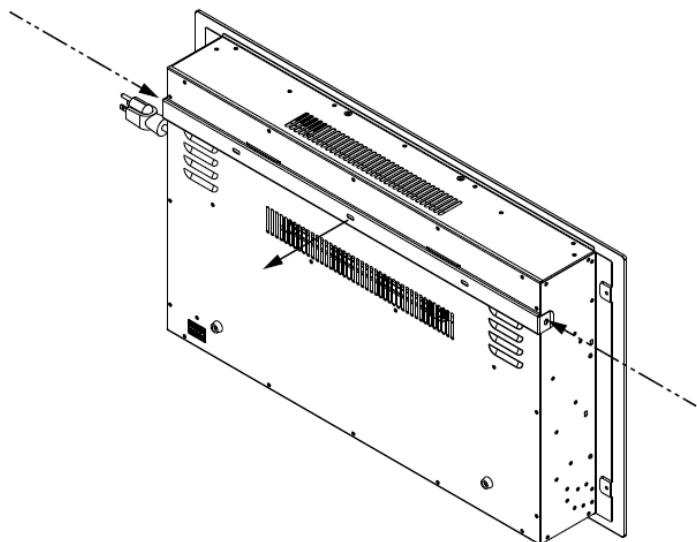
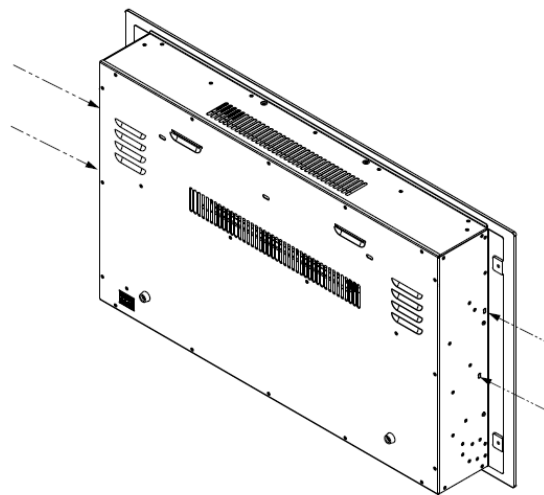

Fig.1
Fig.2
C. Place unit face down on a soft, non abrasive surface. Remove the bracket from the back of the unit by removing the screws, refer to Fig 1. Remove four pcs of silver screws at both sides, refer to Fig 2.
- B. If your fireplace come with lotset, remove the logset from the package, put it to the fireplace designed place. Figure 1.